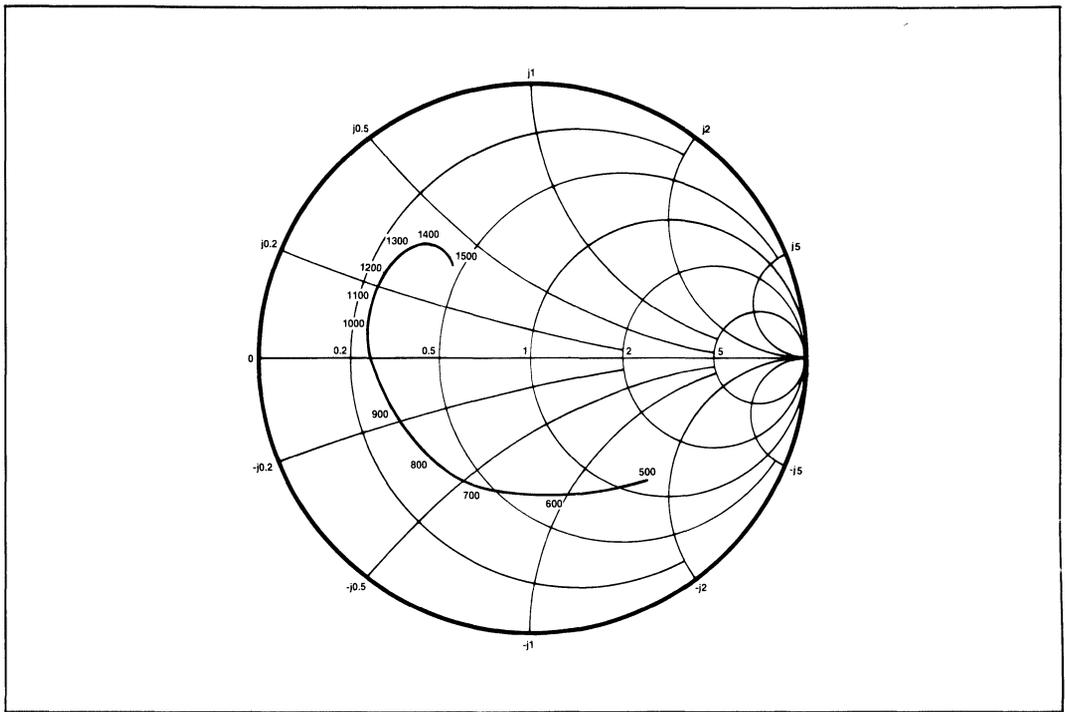

Fig.4 Typical input impedance. Test conditions: supply voltage -5.2V, ambient temperature 25° C, frequencies in MHz, impedances normalised to 50 ohms.
- The input impedance of the SP8610/11 is a function of frequency. See Fig. 4.